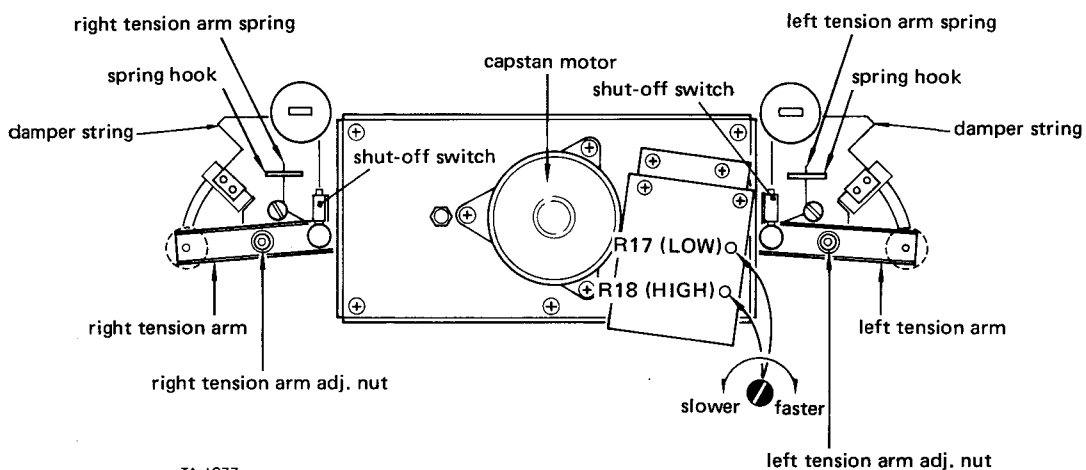

Fig. 2-9 Tension arm height, tension arm force, damper function, and tape speed
3. Stop left (right) guide roller's rotation by hand. Adjust by turning the left (right) tension arm adjusting nut (refer Fig. 2-9) so that the tape moves in the center of the guide roller.
3. Play the tape. Adjust R18 (see Fig. 2-9) for a reading of 3,000 Hz \pm 5 Hz.